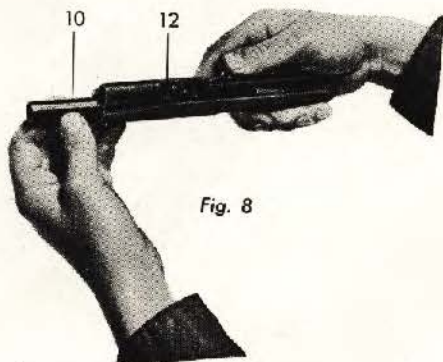

Fig. 8
**Replace the barrel.** Hold the slide upside down. Insert the barrel from the front with the barrel link going in first. The link must be turned forward. (See fig. 8)